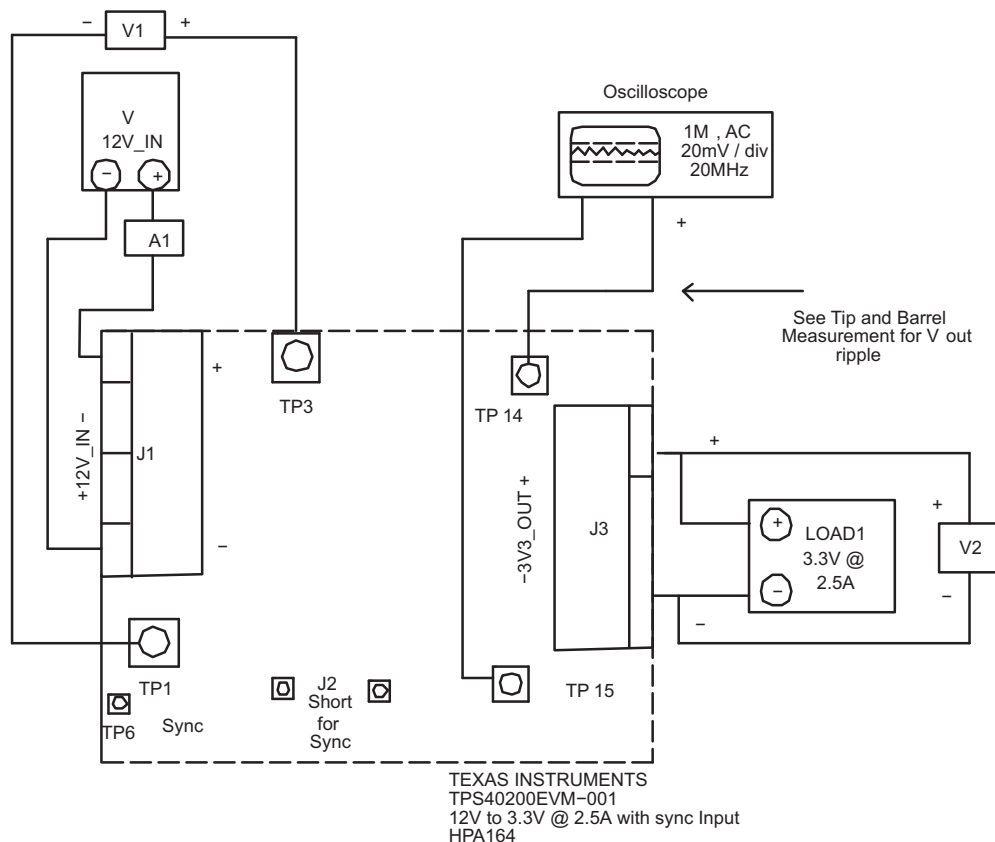

Figure 3. TPS40200EVM-001 Recommended Test Setup
A 60-MHz or faster oscilloscope can be used to determine the ripple voltage on 3V3_OUT. The oscilloscope should be set for 1-M Ω impedance, ac coupling, 1- μ s/division horizontal resolution, 20-mV/division vertical resolution for taking output ripple measurements. TP14 and TP15 can be used to measure the output ripple voltage by placing the oscilloscope probe tip through TP14 and holding the ground barrel to TP15 as shown in Figure 3. For a hands-free approach, the loop in TP15 can be cut and opened to cradle the probe barrel. Using a leaded ground connection may induce additional noise due to the large ground loop area. Connect a short wire from the barrel of the scope probe to TP15 as necessary to reach between TP14 and TP15.
Shown in Figure 3 is the basic test setup recommended to evaluate the TPS40200EVM-001. Note that although the return for J1 and J3 are the same, the connections should remain separate as shown in Figure 3.
3. Connect the ammeter A1 (0-A to 5-A range) between V_{12V_IN} and J1 as shown in Figure 3.
4. Connect voltmeter V1 to TP1 and TP3 as shown in Figure 3.
6. Connect voltmeter, V2 across J3 pin 3 and J3 pin 2 as shown in Figure 3.